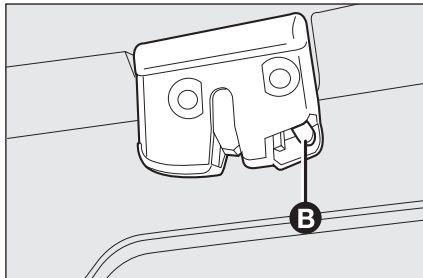

fig. 108
- ☐ to unlock the tailgate mechanically, working from the inside of the luggage compartment, use lever **B**-fig. 108.